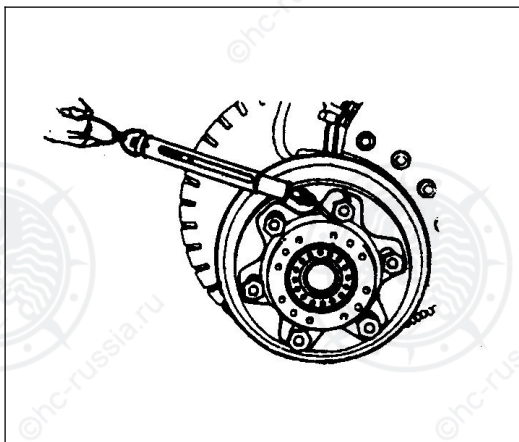

Fig.2-4-7
- 7) Turn wheel hub back and forth two or three rotations to see if rotation starting torque is within specifications. Rotation starting force: $10\sim 29\text{N}$ (refer to Fig.2-4-7) ;